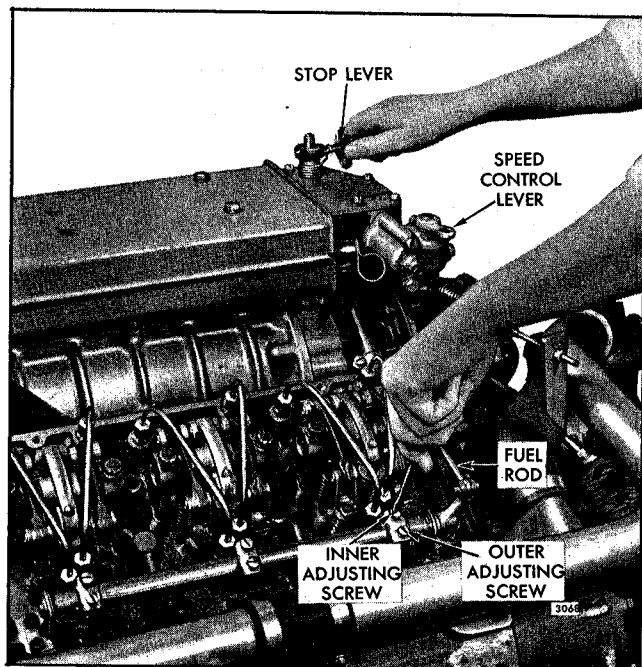

Fig. 17 - Positioning No. 3L Injector Rack Control Lever
6. Move the stop lever to the RUN position and hold it in that position with light finger pressure. Turn the inner adjusting screw of the No. 3L injector rack control lever (Fig. 17) until a slight movement of the control tube is observed, or a step up in effort to turn the screw driver is noted. This will place the No. 3L injector rack in the full-fuel position. Turn the outer adjusting screw down until it bottoms lightly on the injector control tube. Then, alternately tighten both the inner and outer adjusting screws.